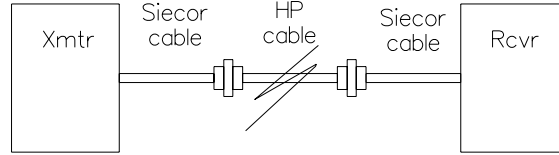

Figure 3: Hypothetical link with intermediate cable
- The “system margin” of this data link can be defined as the difference between (1) the power at the fiber end at full drive current (in dBm) and (2) the optical threshold power that you measured in Step 4 (i.e.,  $M = P_{T \text{ max}} - P_{R \text{ threshold}}$ ). Compute the system margin for your link. Using the Siecor cable specs found in the table attached, compute the nominal expected link distance if the link is all fiber (i.e., no splices or connectors).
- Suppose that we imagine inserting an intermediate cable between the transmitter and receiver as shown in Fig. 3 by breaking the Siecor cable and attaching connectors. If we were to connect the transmitter fiber to a HP cable (specifications for the fiber cables are found in Table 1), *calculate* the connector losses expected due to the NA mismatch. Due to fiber diameter mismatch? Due to reflections? Repeat for the connector between the intermediate fiber and the receiving fiber. How much HP fiber could we have between the connectors?